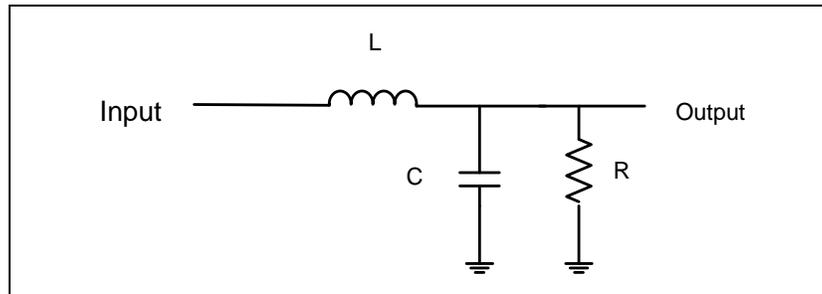

Figure 13 NAU83U15 Speaker Connections with Low-Pass Filters
**Low-Pass LCR Filters** may also be useful in some applications where long traces or wires to the speakers are used. **Figure 13** shows the speaker connections using standard Low-Pass LCR Filters.